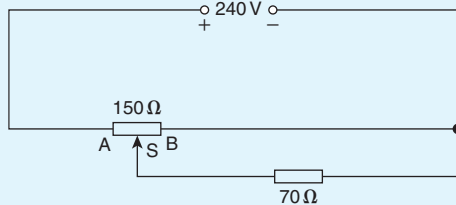

Figure 5.48
5. For the potentiometer circuit shown in Fig. 5.48, AS is 60% of AB. Calculate the voltage across the $70\ \Omega$ load. [63.40 V]